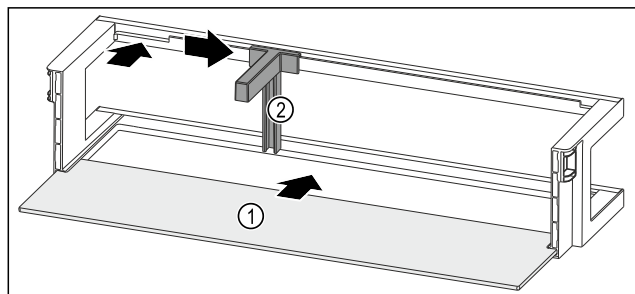

Fig. 131 Door rack with shelf
- ▶ Push the shelf Fig. 131 (1) into the side recesses.
- ▶ Insert the bottle holder Fig. 131 (2) in the recess.
- ▶ Push the bottle holder *Fig. 131 (2)* to the desired position to the side.